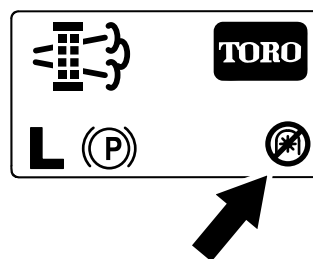

Figure 57
**Note:** The Home screen displays the PTO disabled Icon (Figure 57).
**Note:** The Home screen displays the PTO disabled icon; refer to Figure 57 in Parked Regeneration Messages \(page 46\).